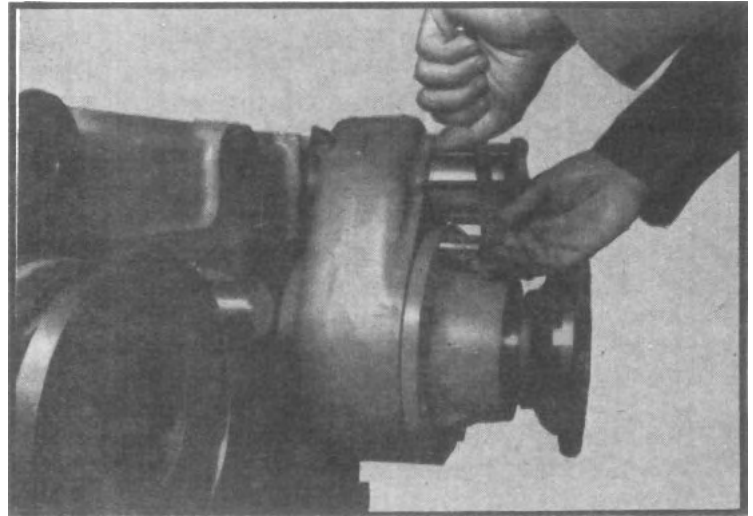

Fig. 3
1. Remove eight capscrews holding PTO/declutch carrier to PTO/declutch housing. (See fig. 3.)